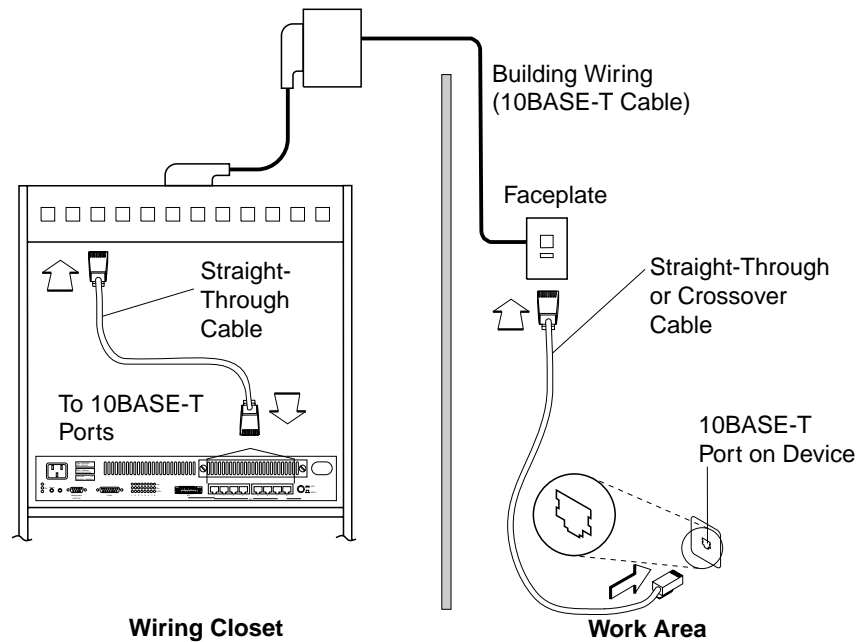

Figure 3-5. Connecting Devices to 10BASE-T Ports Using Building Wiring
- Step 1.** Using the IBM 8271 Cabling Chart provided by your administrator as a guide, connect the cables between the devices and the faceplates as illustrated in Figure 3-5 on page 3-7. Remember that MDI-to-MDI and MDI-X-to-MDI-X connections require crossover cables and MDI-X-to-MDI connections require straight-through cables.